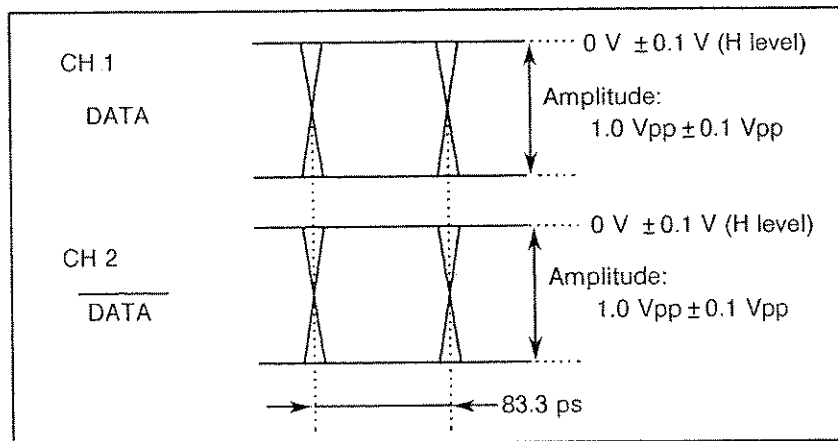

Figure 8-14- DATA,  $\overline{\text{DATA}}$  Output Waveform (TO 0V,  $f = 12000$  MHz)
- (8) Confirm that the waveform is eye patterns as shown in Figure 8-14.